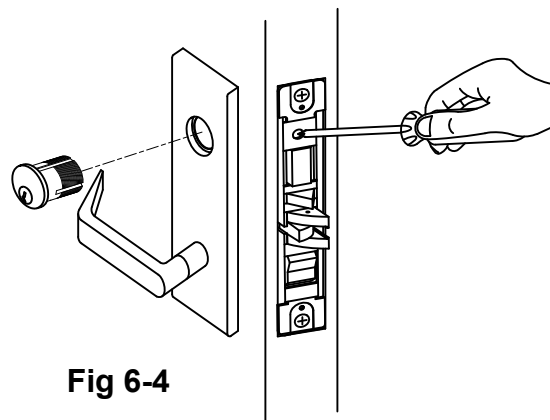

Fig 6-4
5. Screw cylinder into threaded hole of lock case (Fig 6-4).